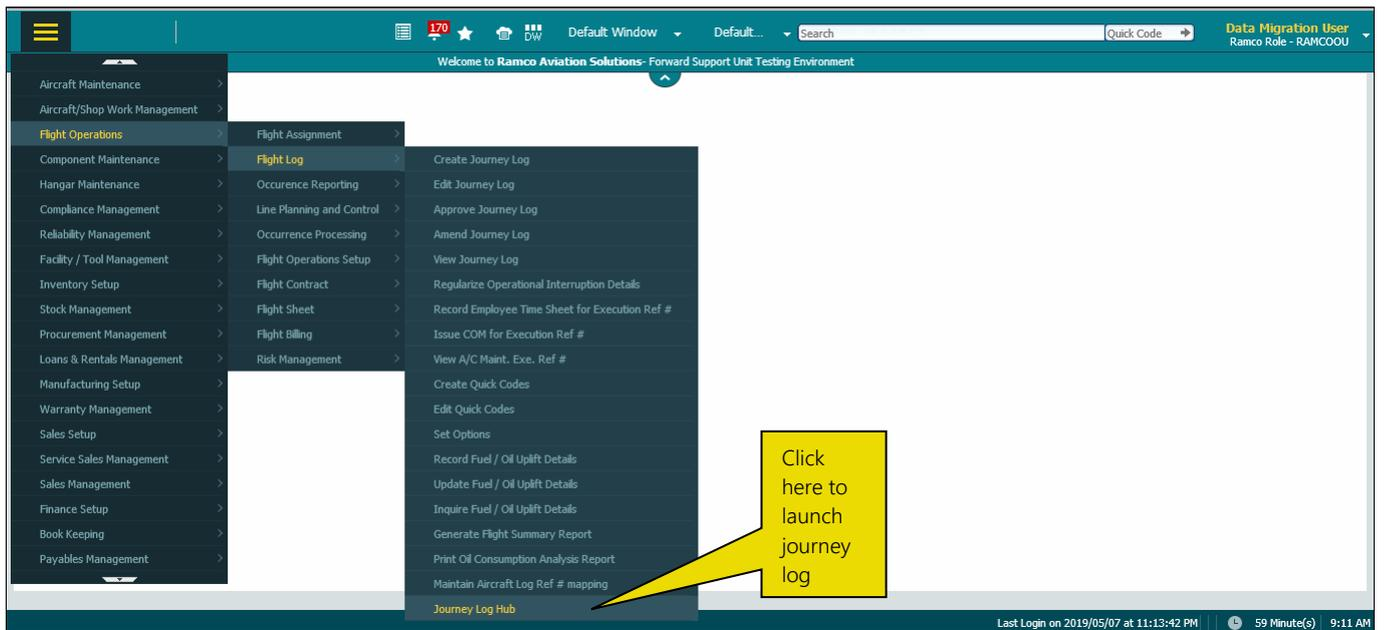

Figure 2.1 How to launch the Journey Log Hub
1. Select **Flight Log** in the **Flight Operations** business process. *See Figure 2.1*